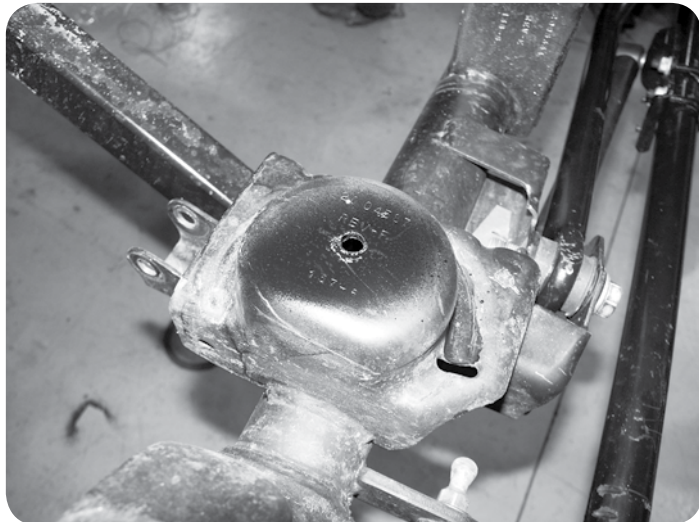

Figure 5
17. Make a mark in the center of the lower coil spring mount pad. Drill a 5/16" hole at the mark (Figure 5). Using the provided 3/8" x 1" self-tapping bolt, tap the hole and remove the bolt. Repeat on the other side. This hole will be used to attach the provided bump stop extension to the axle after the coil spring is installed.